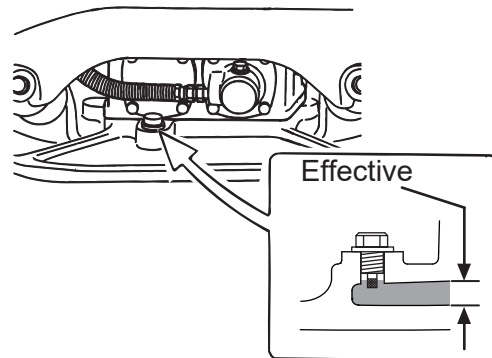

Fig.1
6. Place the reversible compactor on the level surface. Check the vibrator oil level by removing the oil plug. (Fig.1)